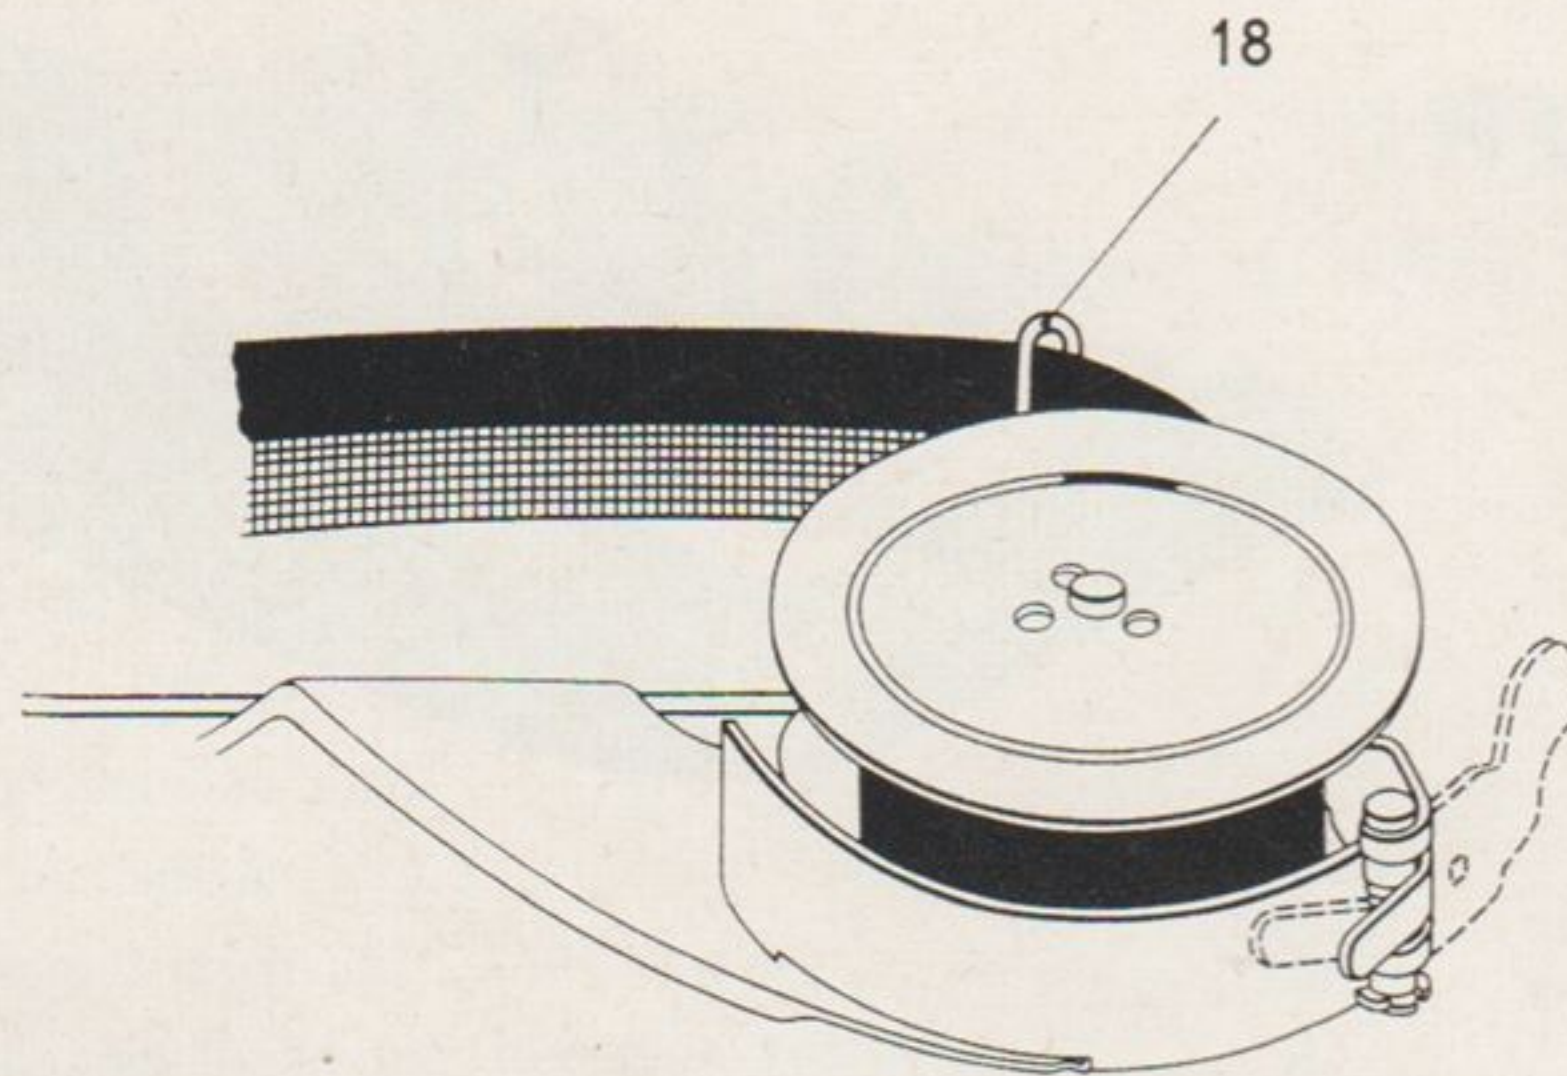

Fig. 8
First remove cover cap. 19. Always insert new ribbons as shown in fig. 8. For better accessibility, it is recommended to depress shift lock key 30.
To insert and take out ribbon spools, swing the braking lever outwards (fig. 8).